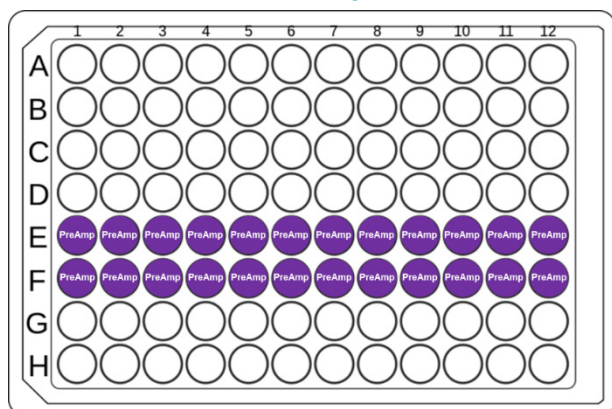

Figure 15: RNA Amplification Mix (PreAmp) in Amplification Master Mix Plate.
- Using a single-channel pipette, aliquot the **RNA Amplification Mix** evenly across all 24 wells of Rows E and F of the 96-well **Amplification Master Mix Plate** (Figure 15). Seal the plate and briefly spin to collect all liquid in the bottom of the wells, and place on ice. Ensure there are no bubbles present in the bottom of the wells.